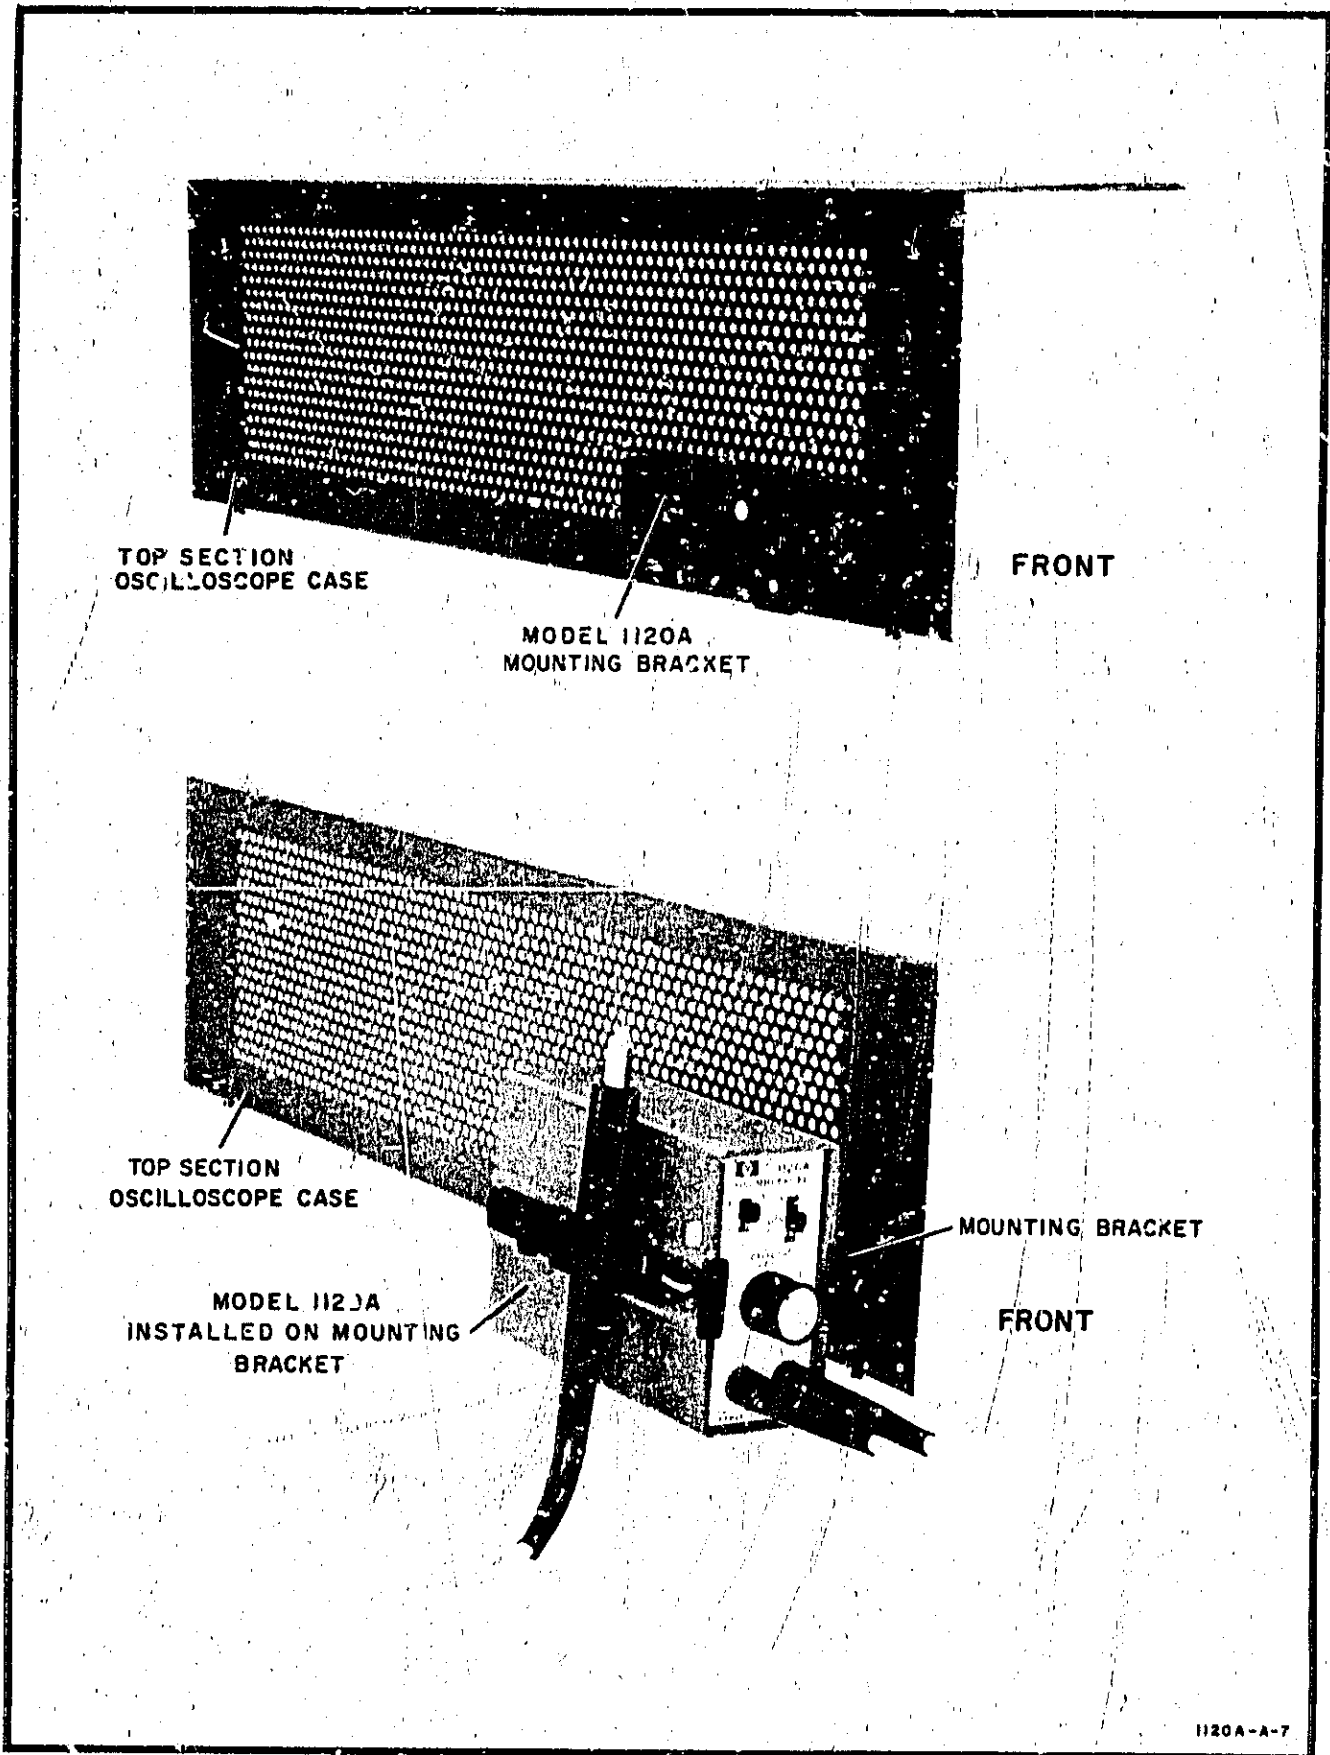

Figure 2. Mounting Bracket Installation
9. When the mounting assembly is attached to a Hewlett-Packard oscilloscope of the 180-series, the bracket should be mounted in the third row of perforated holes (from the bottom of the cover). This will provide low mounting plus access to the cover attachment slides or screws (see figure 2).